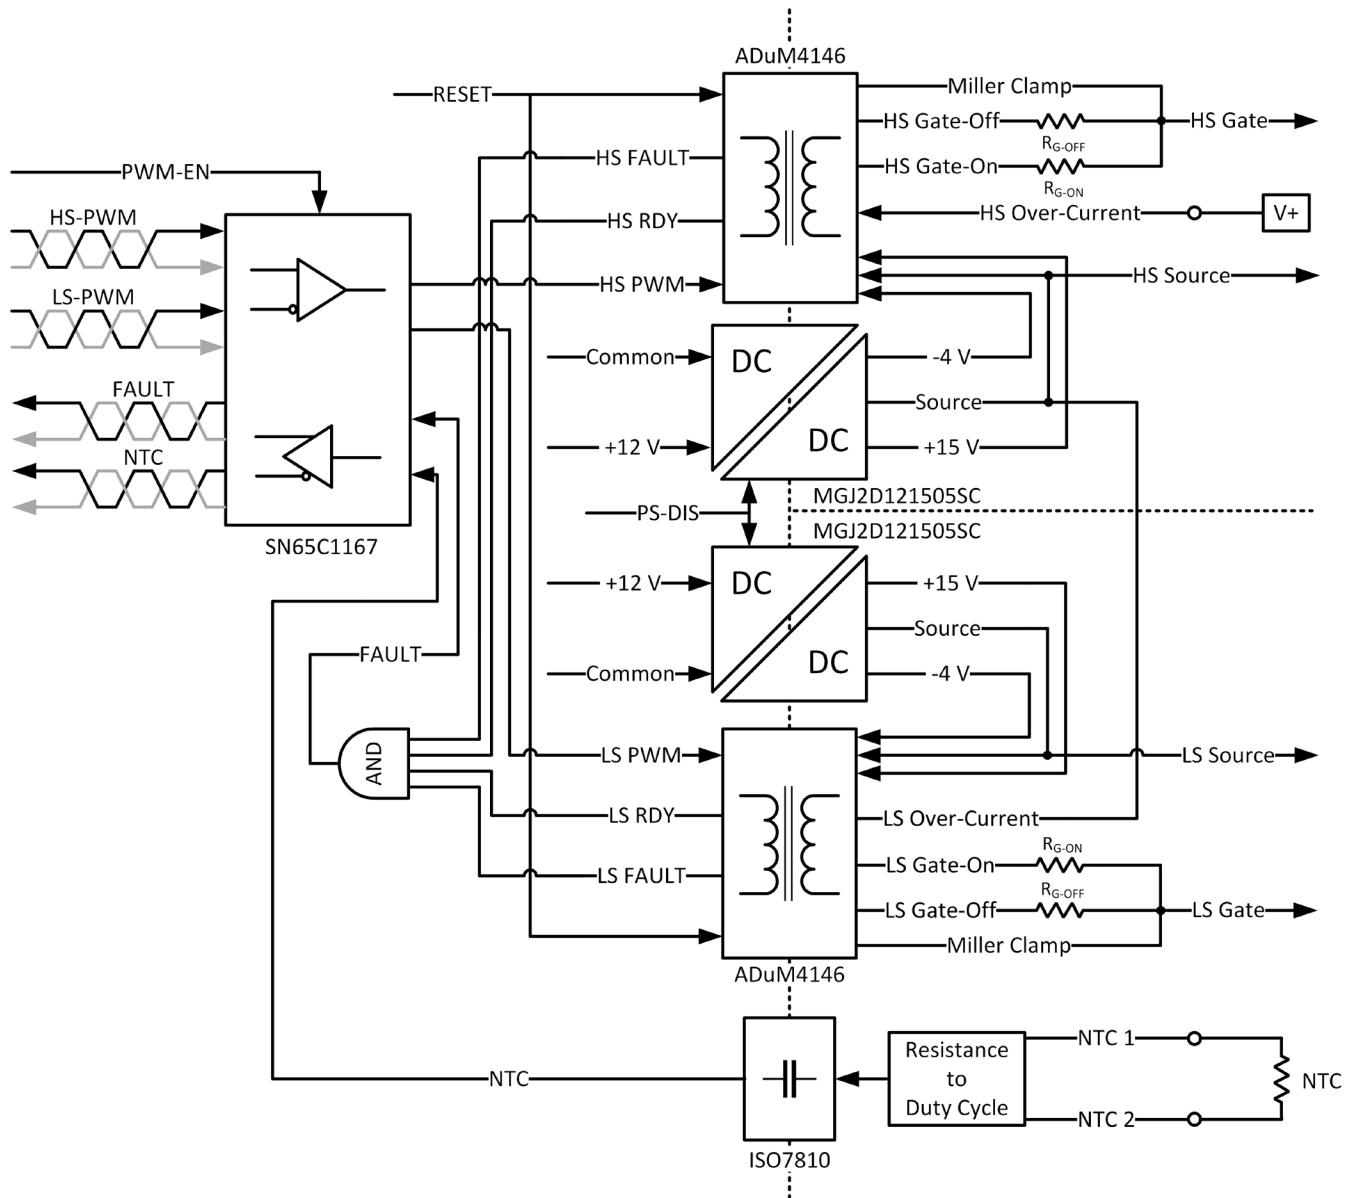
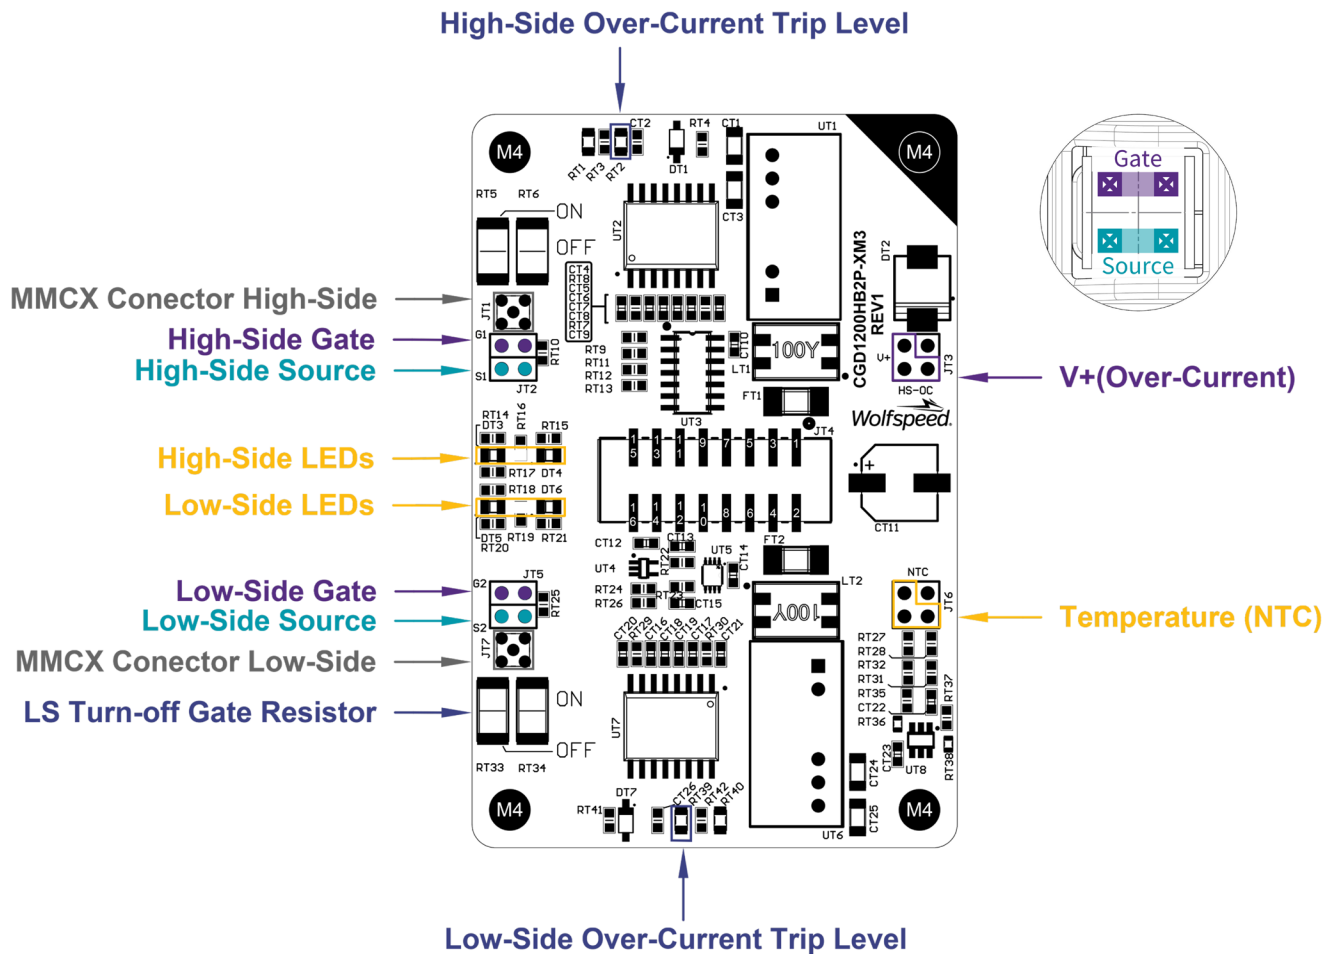

Figure 3: Block diagram of CGD1200HB2P-XM3 gate driver
Figure 4: Interface of CGD1200HB2P-XM3 gate driver
A block diagram of the full gate driver is shown in Figure 3. Both channels (high- and low-side) include a dedicated isolated DC/DC converter and gate driver integrated circuit (IC) for independent modulation of the respective channel. The gate driver communicates with a controller via differential signaling for both input and feedback signals. The gate driver combines all onboard fault signals (i.e. overcurrent and power faults for both channels) into a single global fault signal which is transmitted to the controller to indicate the board status. The board includes an overcurrent detection circuit, independent turn-on and turn-off resistors, Miller clamp, and thermistor feedback. Some notable interface features on the board are indicated in Figure 4.